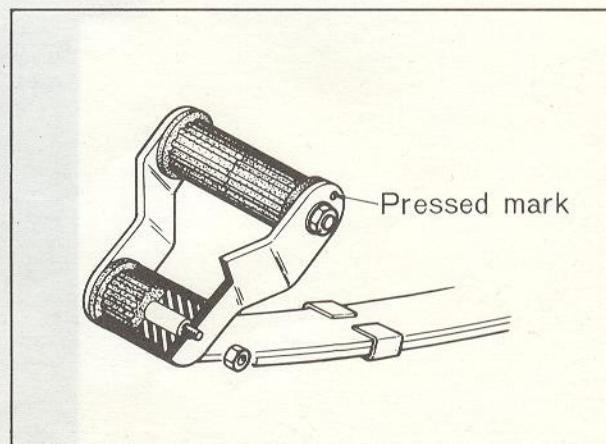

Fig. 13-64 Installing shackle plate
- (b) Install the shackle plate so that the chamfer on the hole of shackle plate is faced to the bush. The pressed mark on the shackle plate should be faced outward, as shown in Fig. 13-64.